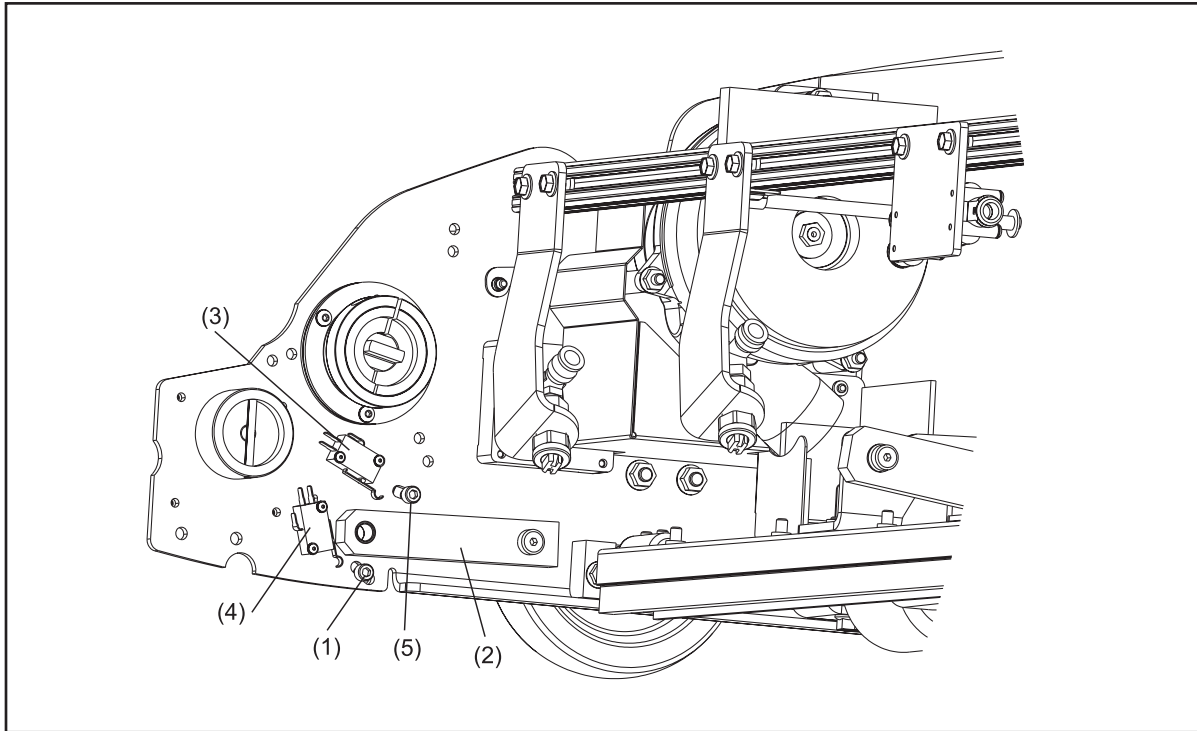

Figure 6-11. Adjusting Up Stop
Tools needed: 3/16" Allen wrench, 7/16" Open-end wrench. Refer to *Figure 6-11*.
4. The stop bolt should be located so that when the duster contact roller pivot arm is against the up stop bolt it allows the up switch to be completely engaged, but does not push the arm of the up switch past the switch body. Refer to *Figure 6-11*.